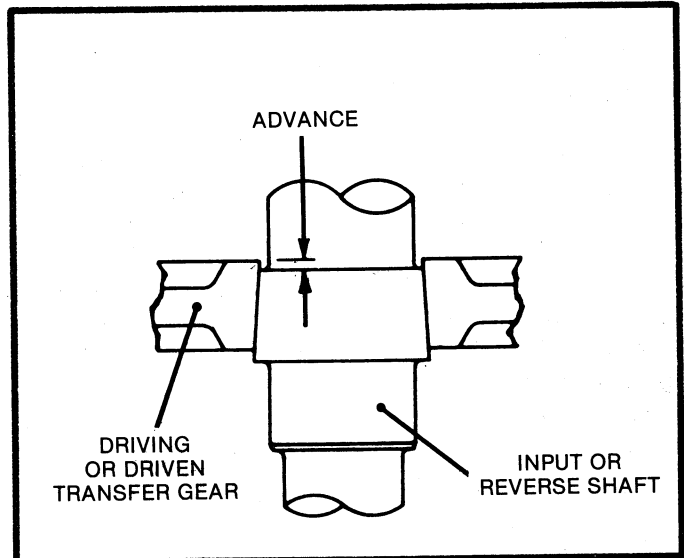

Figure 9-1. Advance of Gear on Shaft.
b. Seat gear on shaft taper using 100-200 lbs. maximum force. This is the ready position. See Figure 9-1.